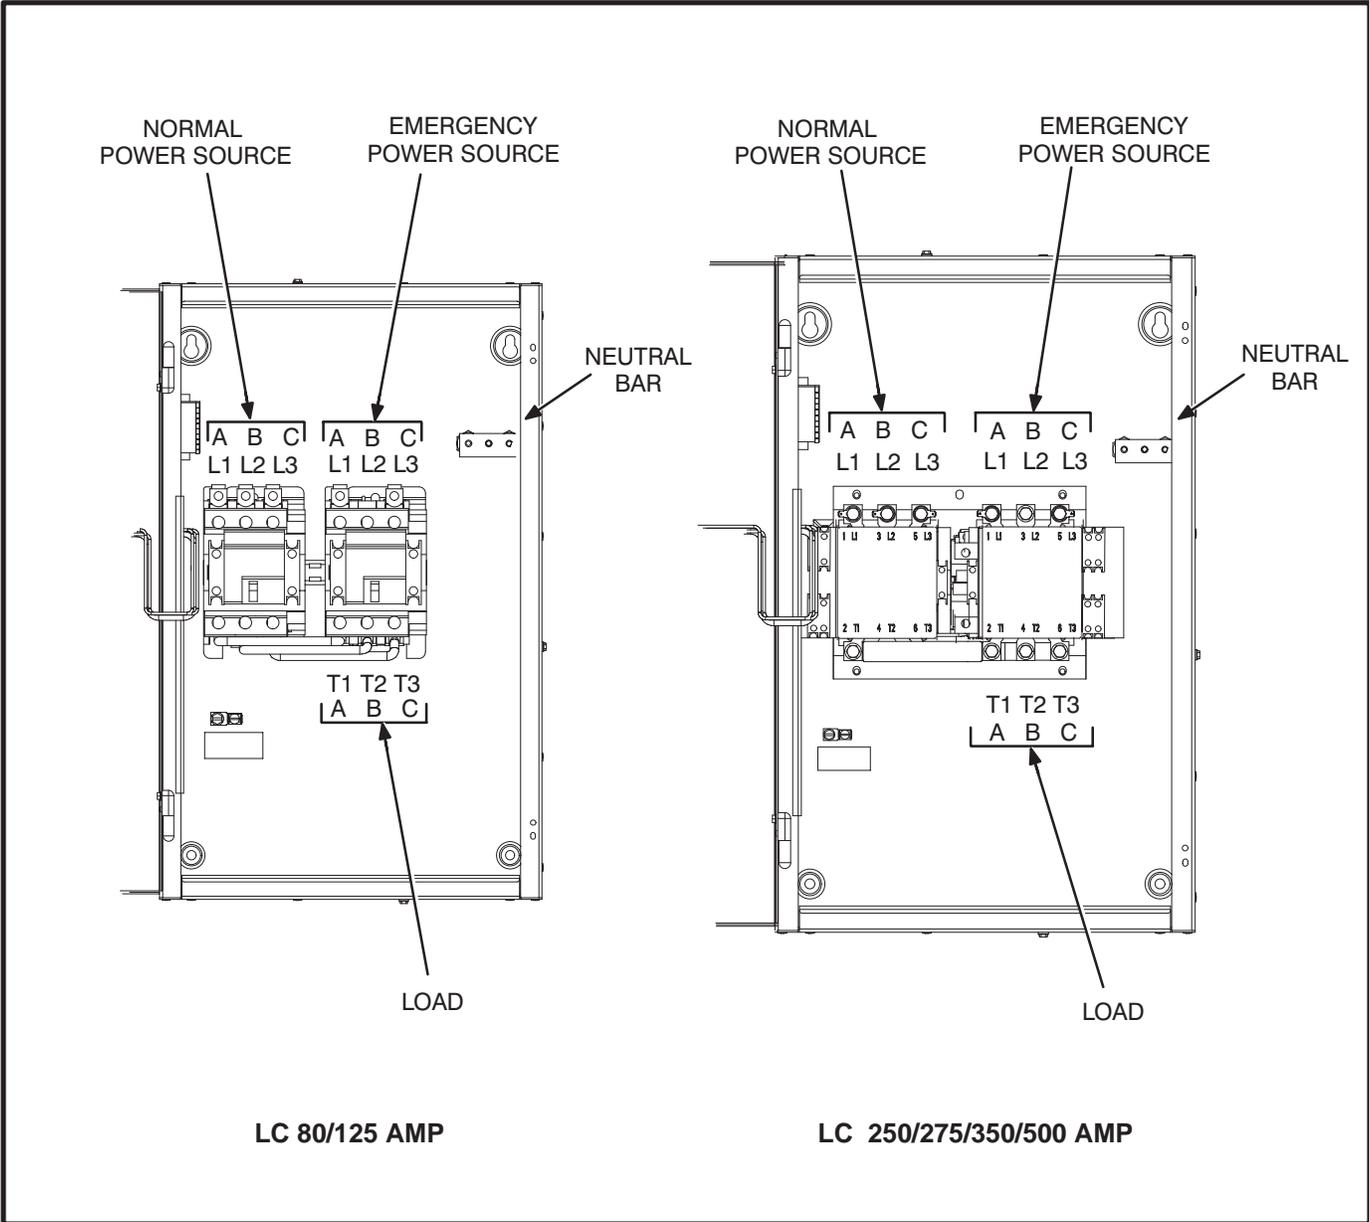

FIGURE 3-1. TRANSFER PANEL SOURCE AND LOAD CONNECTIONS
Table 3-1 gives the type and range of conductor size the transfer panel will accept. Figure 3-1 shows transfer panel source and load connections.
3. Connect conductors of sufficient size (see contract drawings) to carry rated current from the line, load, and generator set directly to the transfer panel terminals. The Normal power and Emergency power connections are marked L1, L2, and L3. The load connections are marked T1, T2 and T3. A neutral bar is standard. See Figure 3-1.
On open construction configurations, refer to the drawings supplied with the transfer panel for customer connections. Refer to Figure 3-1 for source